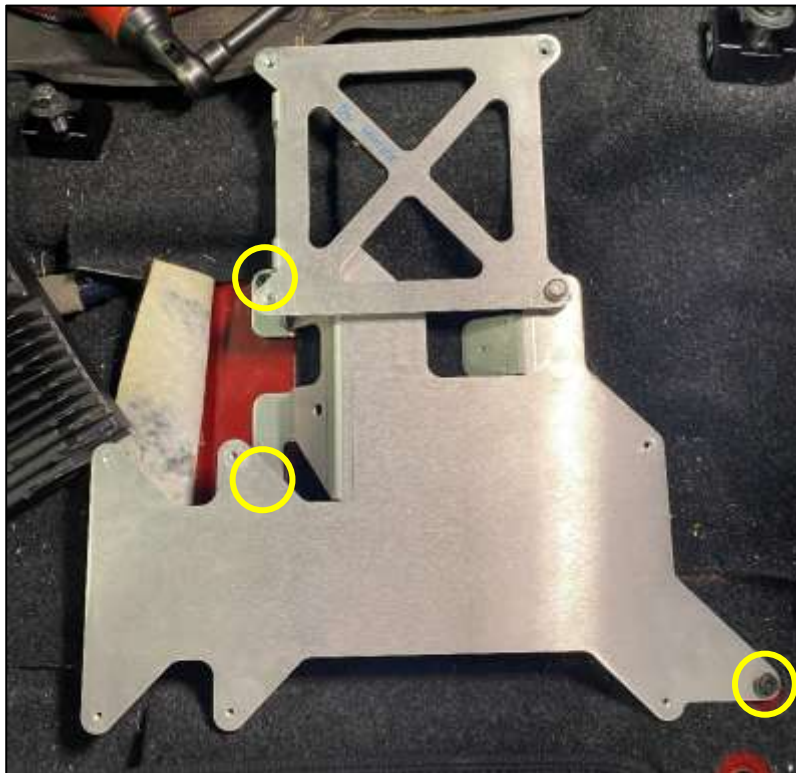

Figure 13
18. Position the AMP Bracket Assembly over the OE Floor Mounting Holes. Loosely secure it to the floor with the (3) three OE Bolts removed in *Step 12*, or use (2) two M6 Flanged Bolts and the 10mm Thread Screw included. *Figure 13.*